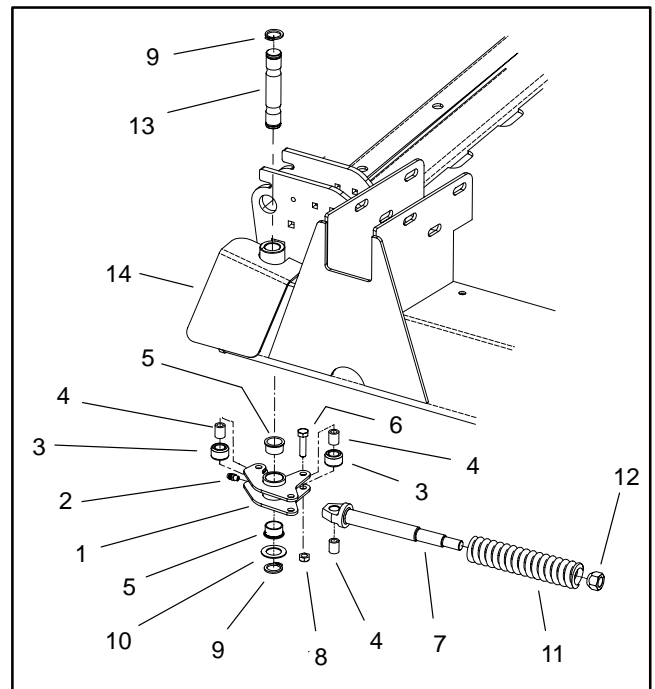

Figure 11
### Disassembly (Fig. 11)
5. Disassemble latch (items 1 through 8) using Figure 11 as a guide.
### Assembly (Fig. 11)
1. Assemble latch (items 1 through 8) using Figure 11 as a guide.